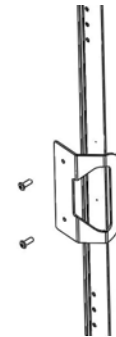

Figure 5.1
1. Remove screws from the door handle and the 8 plastic plugs on the opposite side of the unit (2 in the door and 6 on the cabinet). Re-attach handle on other side of the door. (Figure 5-1)